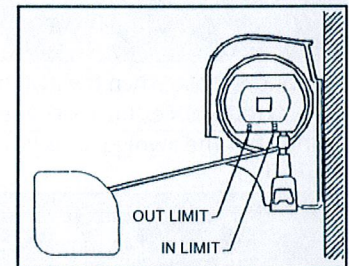

Fig. 1 Motors with Black Plastic Casings
4. The IN limit is the BLACK arrow. To make the awning close MORE, first turn the main awning wall switch or Wind Sensor switch to the IN (retract) position. At the motor, insert the tool and turn the switch next to the BLACK arrow in the direction of the (+) sign. ¼ turn represents approximately 1" of the awning movement. This action will create a tighter fit as the awning box closes. To make it close LESS, turn in the direction of the (-) sign. See Fig. 1.
The OUT limit is the RED arrow. To make the awning extend MORE and release more fabric, first turn the main awning wall switch or the Wind Sensor switch to the OUT (extend) position and extend the awning to its maximum position. Proceed by turning the limit switch next to the RED arrow in the direction of the (+) sign. To make the awning extend LESS, turn the switch in the (-) direction. See Fig. 1.